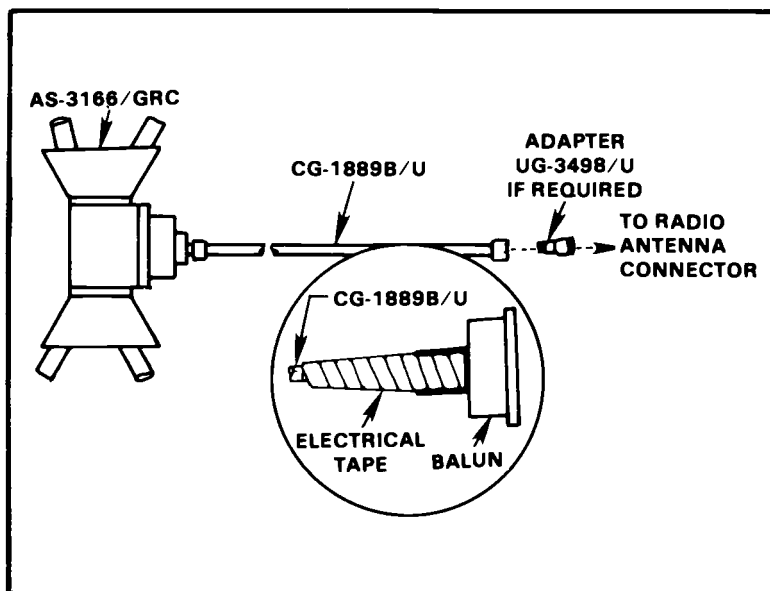

Figure 3-12. Connections of CG-1889B/U to AS-3166/GRC and radio.
- b. Connect the RF Cable CG-1889B/U to the feed cone assembly connector (Figure 3-12).
- e. Tape the RF cable connection (Figure 3-12) and tape the cable to the insulating extension just below the feed cone assembly. Tape the cable to the mast every 5 feet all the way to the bottom of the mast.
NOTE: For AN/VRC-12 family FM radios with BNC type antenna connectors, use the UG-349B/U adapter on the end of the CG-1886B/U RF cable (Figure 3-12).